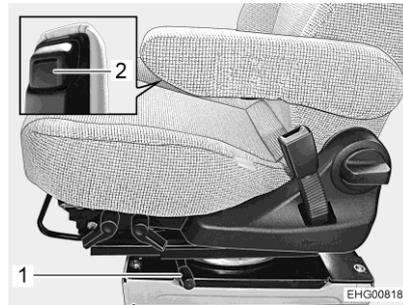

Fig. 16 Release lever for rotating
- Press the release lever (Fig. 16,1) backwards. The latch is released.
- Press and hold the lower part of the armrest (Fig. 16,2) at the front.